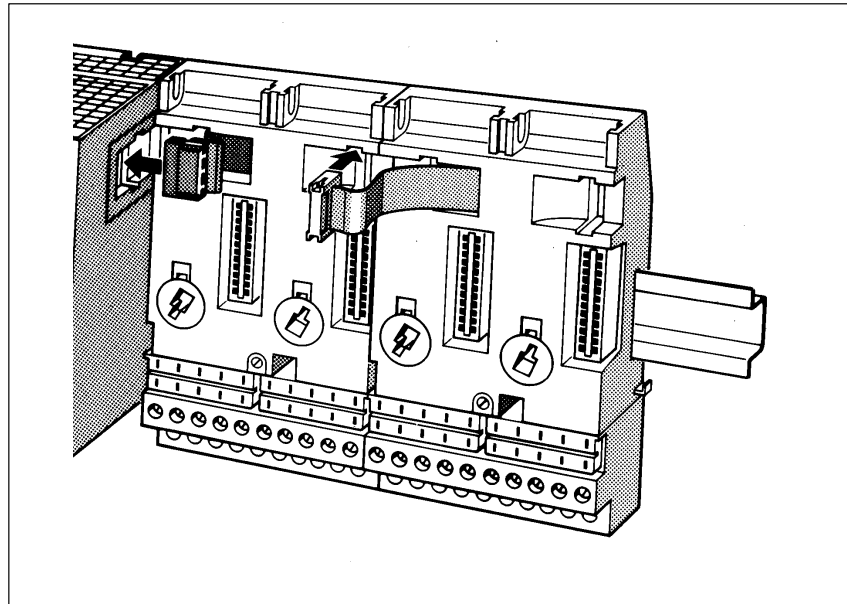

Figure 3-2 Connecting the Bus Units
4. On the upper left of the bus unit is a ribbon cable. Pull the connector of the ribbon cable out of its holder (see Figure 3-2).
5. Plug the connector of the ribbon cable into the male connector on the right side of the ET 200U interface module / PS 935 power supply module or into the male connector of the bus unit on the left (see Figure 3-2).